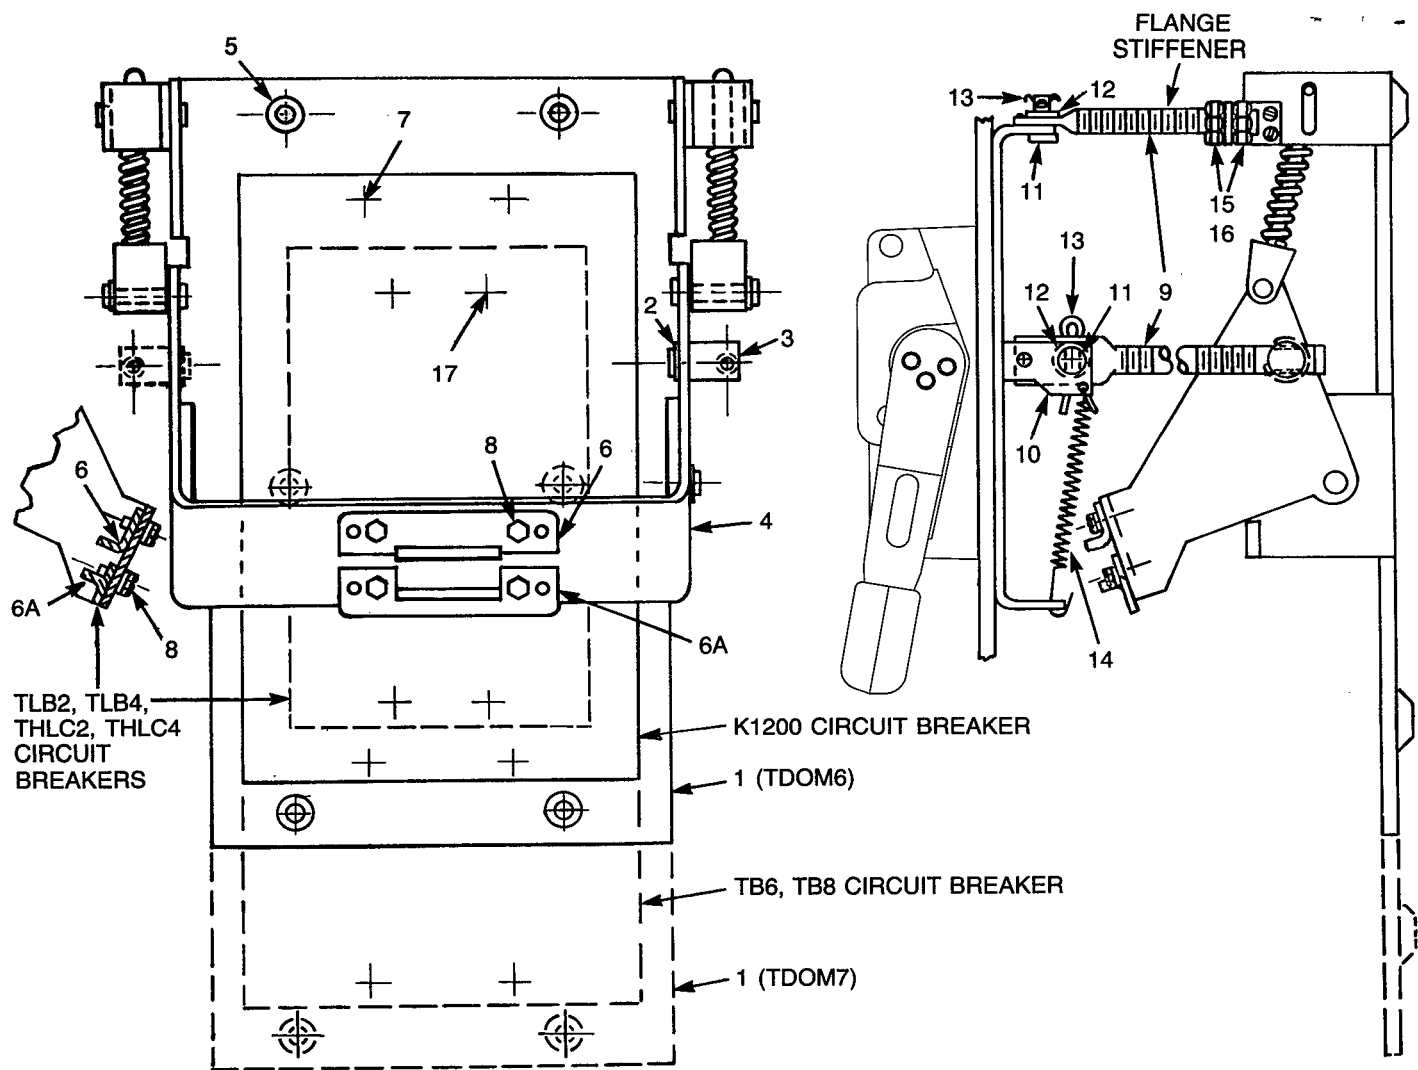
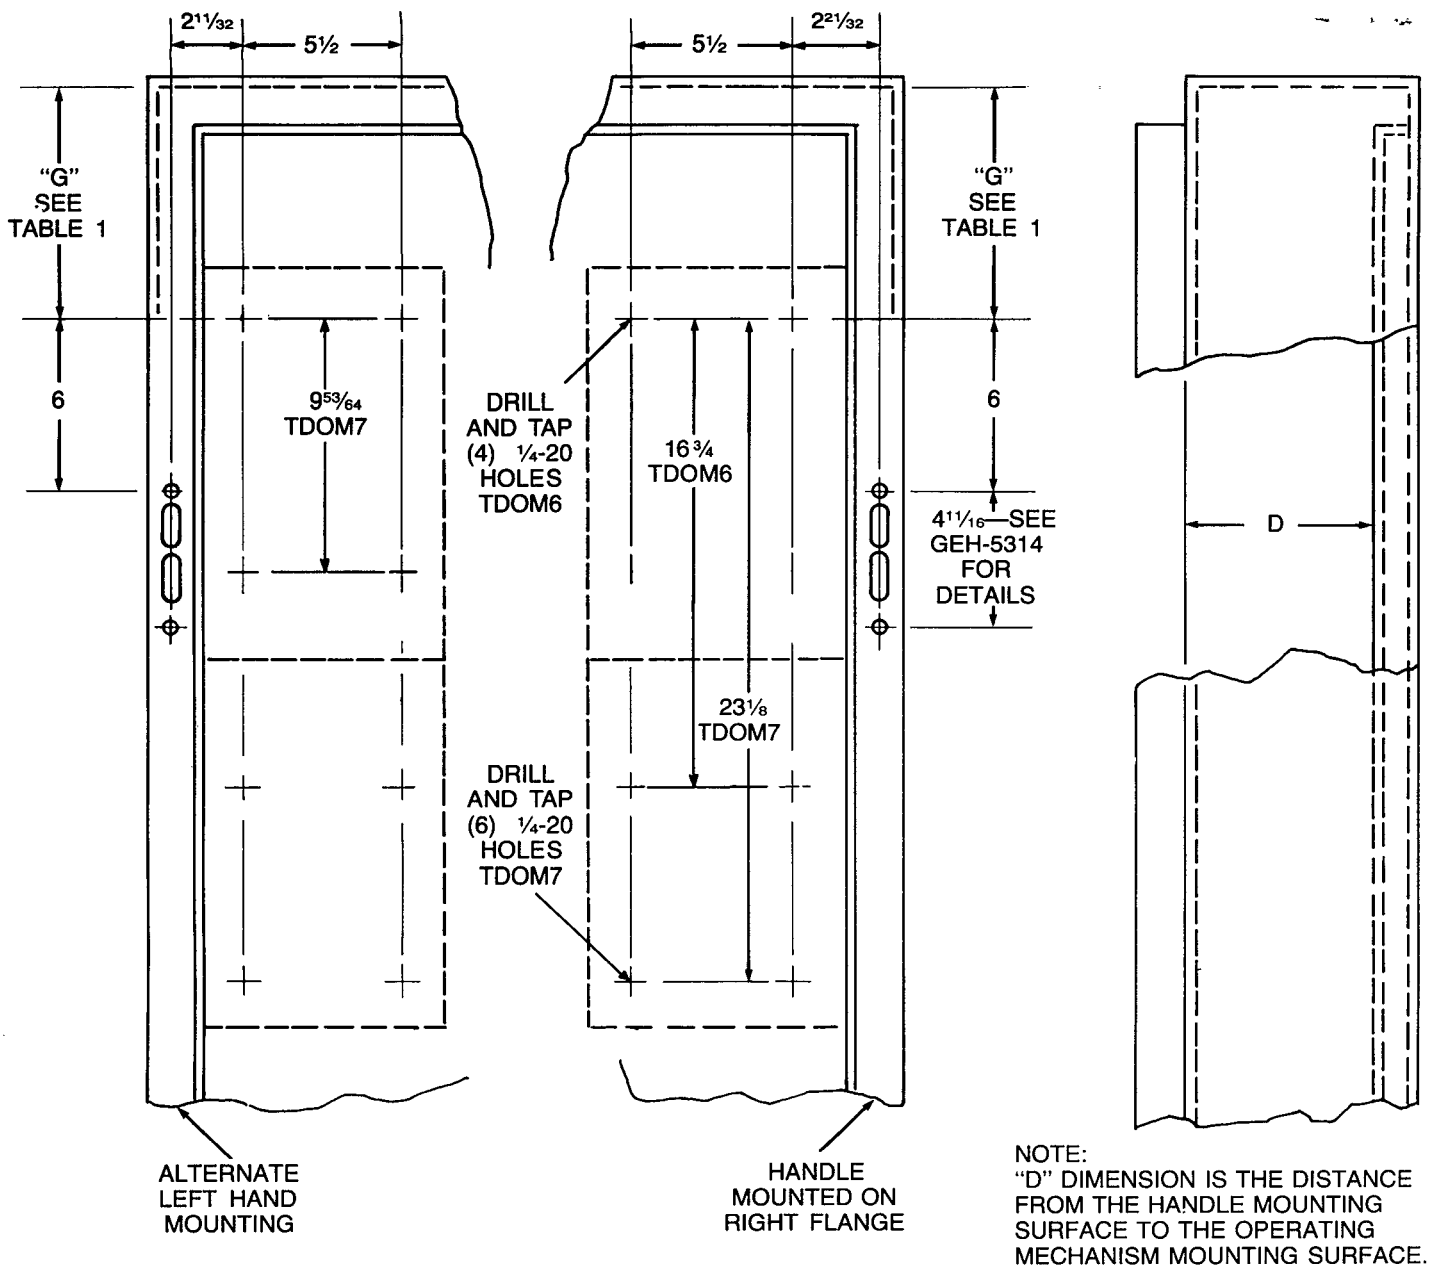

Figure 1.
Figure 2. Customer sub-panel layout and drilling for left or right mounting.
INSTALLATION OF OPERATING MECHANISM—(SEE FIGURE 1.)
1. If the operating mechanism is to be used for right-hand operation proceed to Step 2. If operating mechanism is to be used for left-hand operation, remove E-ring (2), and drive stud (3) from right side of yoke (4), and reassemble to left side of yoke.
2. Determine location of upper right (or upper left, for left-hand operation) operating mechanism mounting hole from Figure 2. Verify that recommended space from operating mechanism upper mounting hole to top of enclosure (or other closer grounded metal parts) will be met (use Table 1 as a guide). Drill and tap four 1/4-20 holes as shown in Figure 2.
4. Mount operating mechanism (1), to subplate using four 1/4-20 x 1/2" screws and lockwashers (5).
5. Refer to Figure 2 and determine "D" dimension, which is the distance from the handle mounting surface to the operating mechanism mounting surface. Cut drive rod (9) (see Figure 1.) 2 1/4 inches shorter in overall length than "D" dimension.
6. Refer to Figure 1 and thread rod (9), into drive stud (3), until it is about flush with the opposite side of the stud (approximately 10 full turns).
7. With handle and mechanism yoke (4) in OFF position, place small hole in upper end of rod over stud in handle drive link (10).
8. Assemble pin (11) through handle drive link and then through hole in rod. Place washer (12) over pin and assemble cotter pin (13) through hole in pin. Do not bend cotter pin at this time. Slight movement of handle may be necessary to align pin and hole.
Table 2. Kit Contents—Replacement Parts (See Figure 1.)